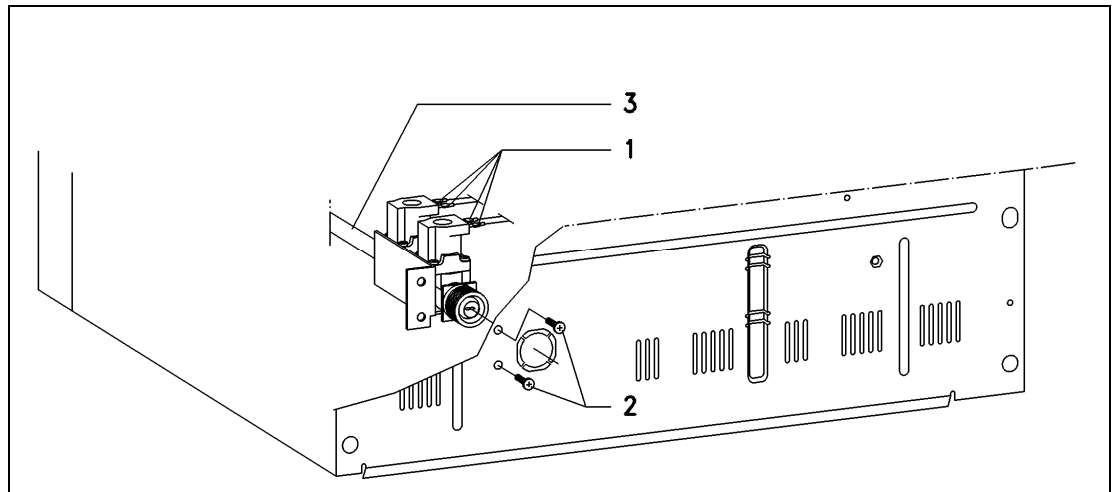

Figure 5-34: Water Inlet Valve Removal
7. Remove two T20 screws holding the water inlet valves. See Figure 5-34, Item 2.
8. Disconnect the cable from the water valves (mark/label). See Figure 5-34, Item 1. The valve on the right is the primary valve; valve on the left, the secondary valve.
9. Disconnect the hose from the water valves and remove. See Figure 5-34, Item 3.